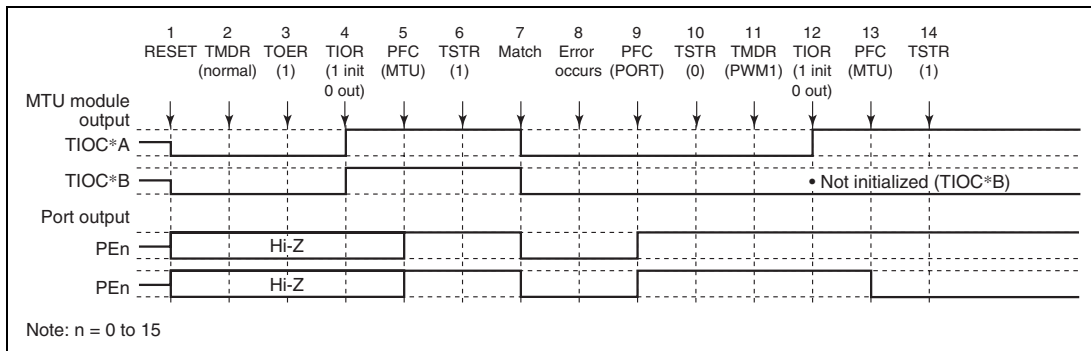

Figure 8.85 Error Occurrence in Normal Mode, Recovery in PWM Mode 1
(2) Operation when Error Occurs during Normal Mode Operation, and Operation is Restarted in PWM Mode 1: Figure 8.85 shows an explanatory diagram of the case where an error occurs in normal mode and operation is restarted in PWM mode 1 after re-setting.